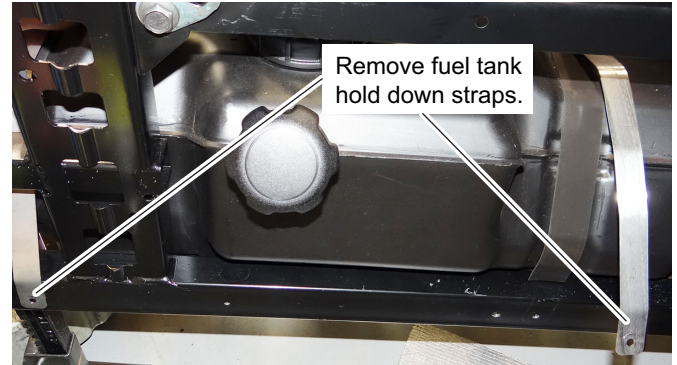

Fig. 5 Fuel Tank Removal
6. Remove the hold down straps (See Fig. 5).